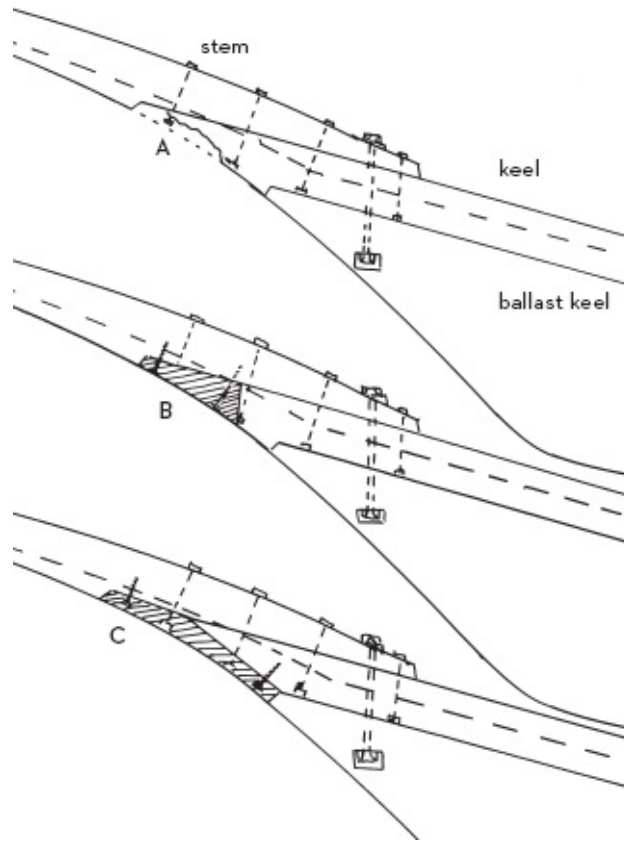

FIGURE 137 }
- cutting off as little directional grains as possible (see Figure 137)